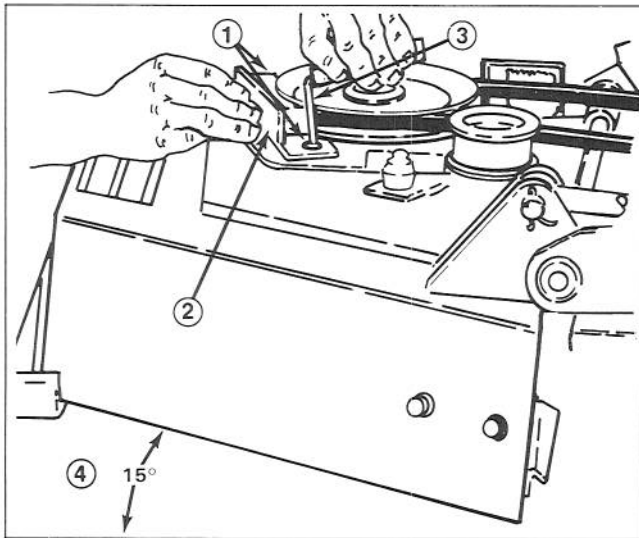

Figure 33
1. Raise wing to be adjusted 15 degrees (use a magnetically mounted compass) and loosen brake pad capscrews with Allen wrench (Fig. 33). Push brake pad against pulley with one hand and tighten capscrews with the other hand.